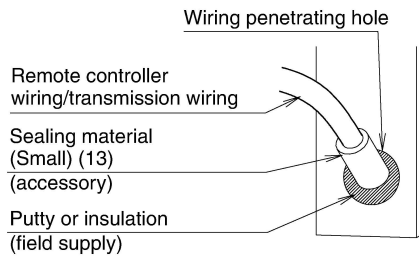

Fig. 24
- After connecting the wiring, make sure to stick the sealing material (Small) (13) to the wiring penetrating hole to prevent water from entering the indoor unit. (Refer to Fig. 24)